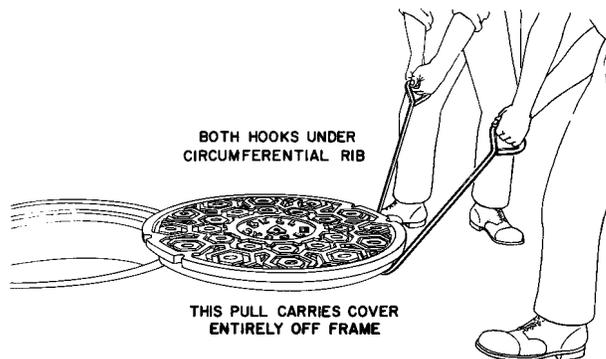

Fig. 16—Sliding Cover Clear of Frame—Two-Man Method
- (6) While the man on the pulling side still has his manhole hook engaged, the other workman moves around and engages his hook under the reinforcing rib. The men then assume positions so that the cover can be skidded between them and, with feet spread, pull the cover clear of the frame (Fig. 16). Both men then pull the